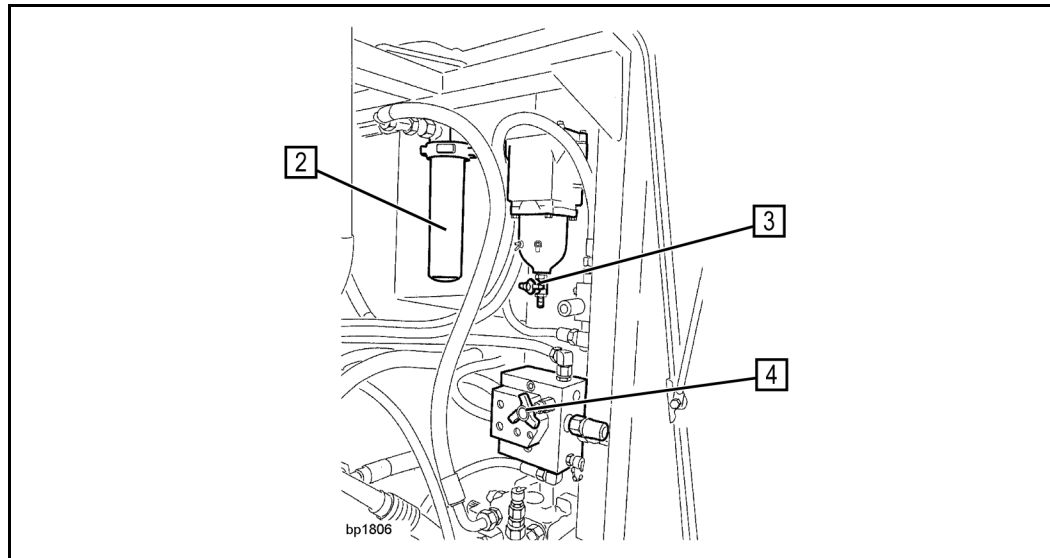

Fig. 104
Open the right maintenance flap. The level indicator has been designed as a riser pipe and is located on the right next to the fuel prefilter (3) (**Fig. 104**).